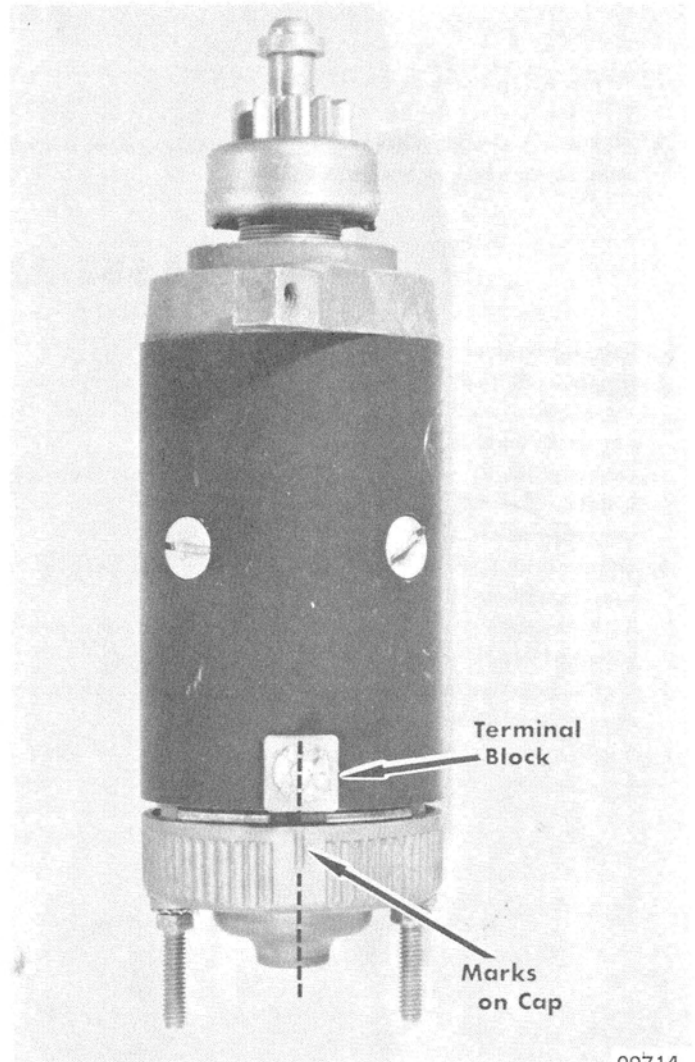

Figure 4. Aligning End Cap with Brush Holder
5. Align lower end cap with brush holder and install. Two marks on cap line up with terminal block. (Figure 4) Install 2 thru bolts and tighten.